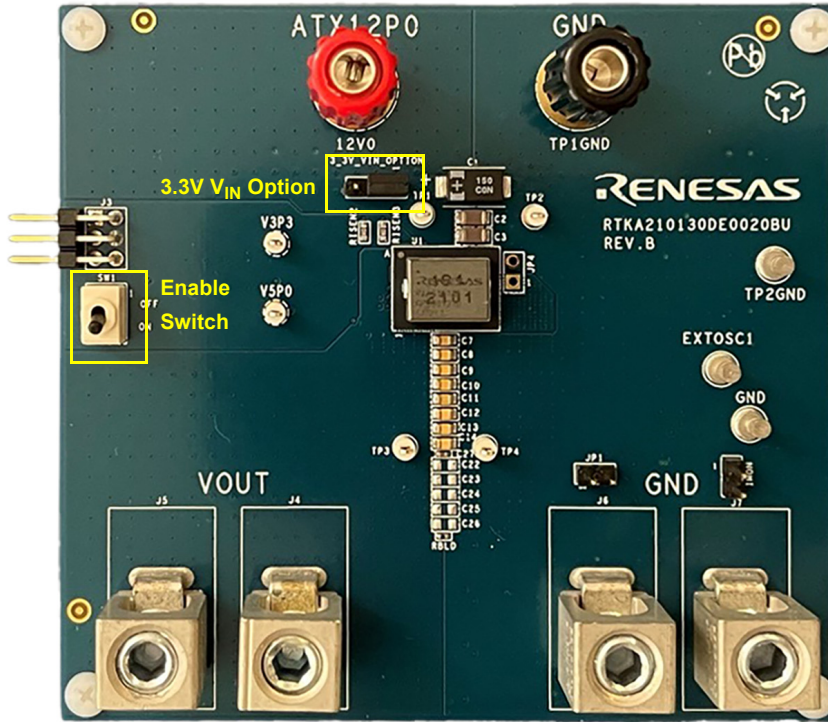
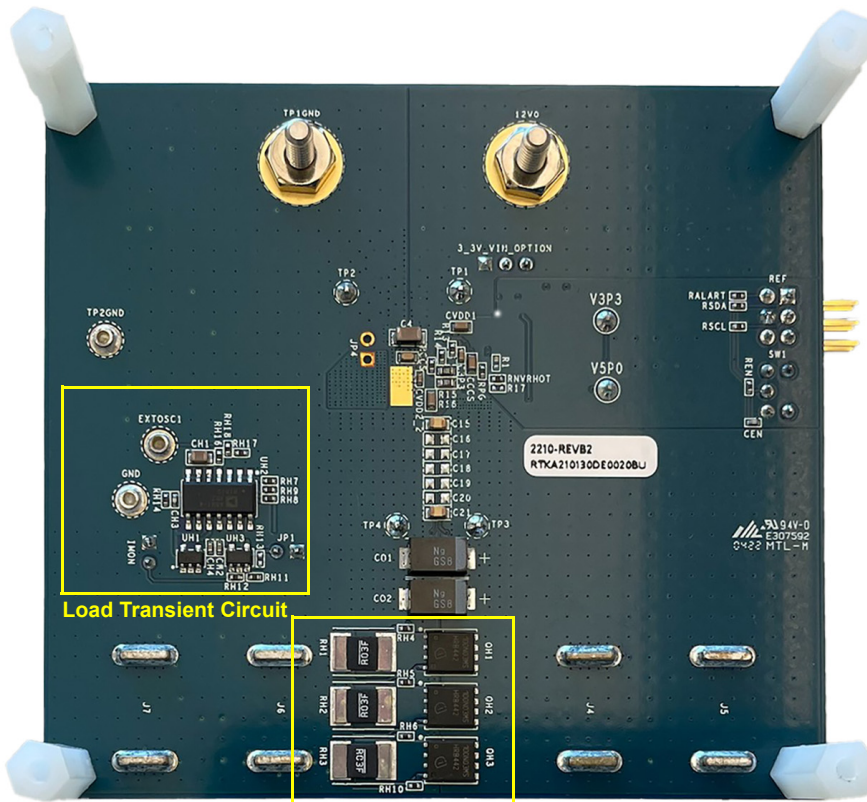

Figure 6. Top of Board
Figure 7. Bottom of Board
The RTKA210130DE0020BU evaluation board provides the peripheral circuitry to evaluate the feature set of the RAA210130. The evaluation board includes several connectors, test points, a mechanical switch and jumper that simplify the evaluation of the module. When pin Enable is selected in the PowerNavigator, the converter is enabled and disabled by switching the EN pin as shown in Figure 6. Connecting a jumper between pin 1 and 2 of the 3\_3V\_VIN\_OPTION, allows using VIN to power the internal analog 5V and 3.3V supplies (as shown in Figure 6). The RTKA210130DE0020BU evaluation board has a built-in load transient test circuit which can be used to test the load transient response of the RAA210130 (see Figure 7). Figure 6 and Figure 7 show the photograph of the top and bottom of the RTKA210130DE0020BU evaluation board.
1. Disable the module by turning the SW1 switch to the OFF position, shown in Figure 6.
To configure for using external 5V/3.3V supplies, power down the board and remove the jumper on 3\_3V\_VIN\_OPTION. Apply 5V to the V5P0 test point. Apply 3.3V to the V3P3 test point. See locations of the 3\_3V\_VIN\_OPTION, V3P3 and V5P0 test points in Figure 6.